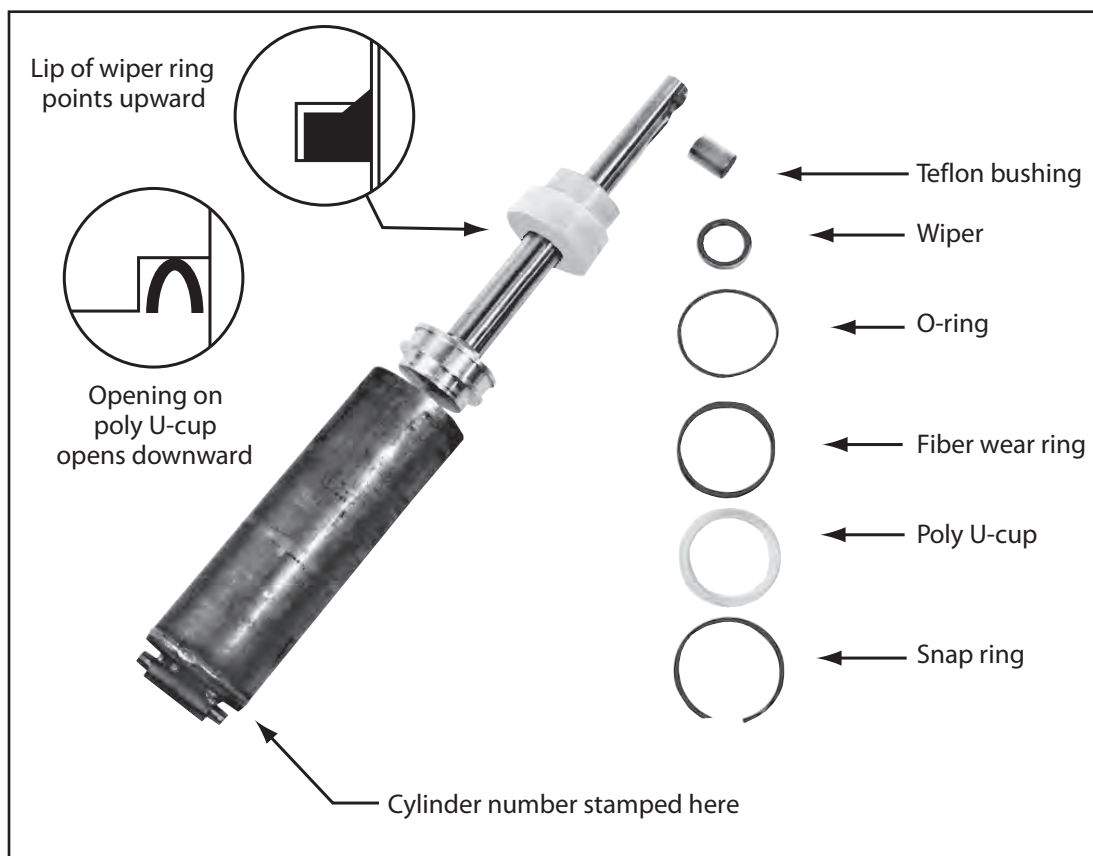

Figure 8 – Cylinder
This section will tell you how to repack a cylinder, shown in Figure 8. This type of cylinder is exclusive to LiftCOA, and repacking kits are only available through LiftCOA. To order a repacking kit, please call the Parts Department at 812-222-2005. When ordering, specify the model number and serial number of the lift, and the cylinder number(s), as listed on the base of the cylinder(s).
7. Fig. 8 shows the parts inside a lift cylinder. At the upper end of the cylinder, remove the snap ring. Pull the rod and piston all the way out of the cylinder. This assembly is heavy! Be careful not to drop it as it comes free.
Be careful not to install the wiper backwards. The lip on the wiper should point upwards, as shown in the detail in Figure 8.